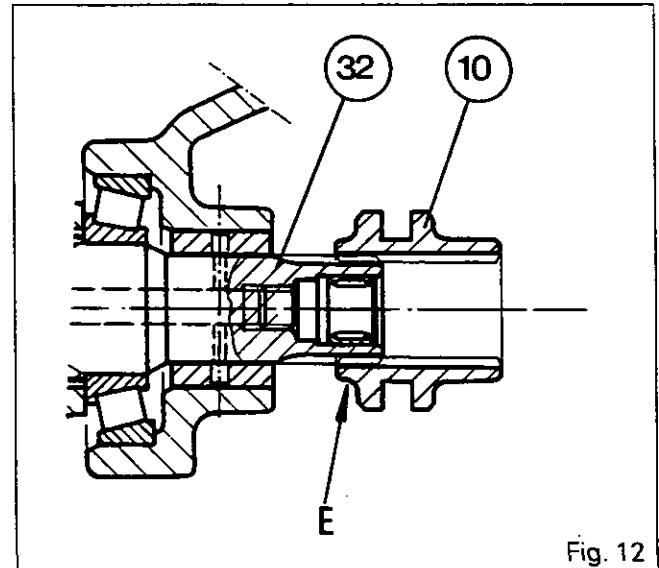

Fig. 12
Note : Position the small shoulder E towards the shaft (32) (Fig. 12).